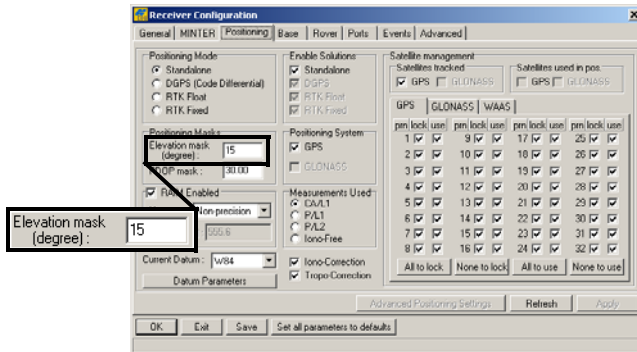

Figure 3-11. Configure Receiver Positioning – Elevation Mask
8. Click the *Positioning* tab and set the *Elevation mask* to 15 (Figure 3-11), then click **Apply**.